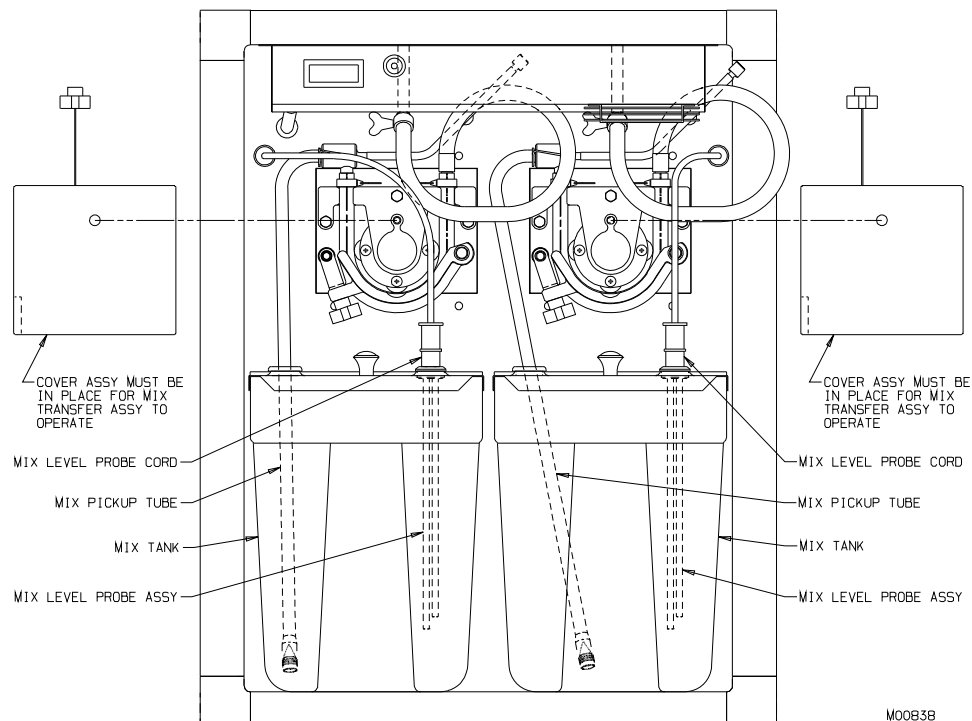

Figure 9-2
4. See figure 9-2. In the cabinet below, disconnect the low mix probes from the back of the cabinet and remove from the mix tanks. Remove the mix tanks while pulling the stainless steel pickup tubes from the mix tanks. Place mix in a clean, sanitized container.